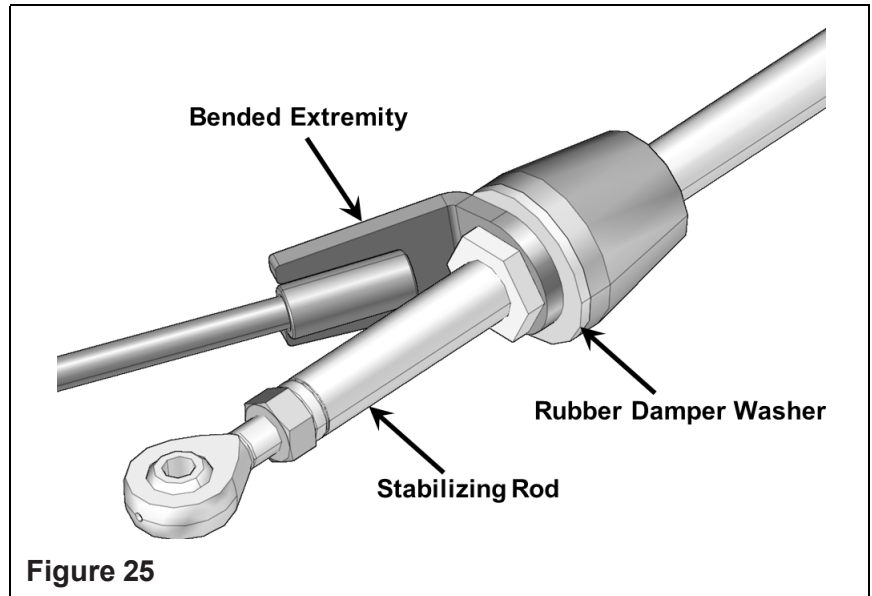

Figure 25
13. On each front track system, position the bended extremity of steering limiter on stabilizing rod, between hex grip and rubber damper washer. Figure 25.